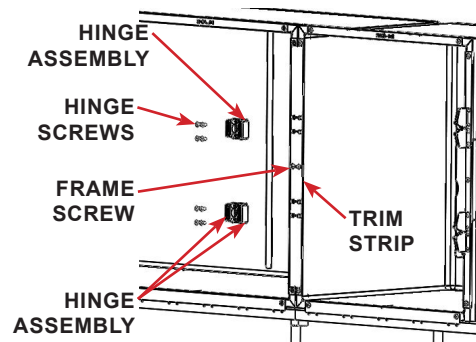

FIGURE 2.25 - Hinge Installation
STEP 15: Reinstall the hinges on both cages, but do NOT fully tighten screws. See FIGURE 2.25